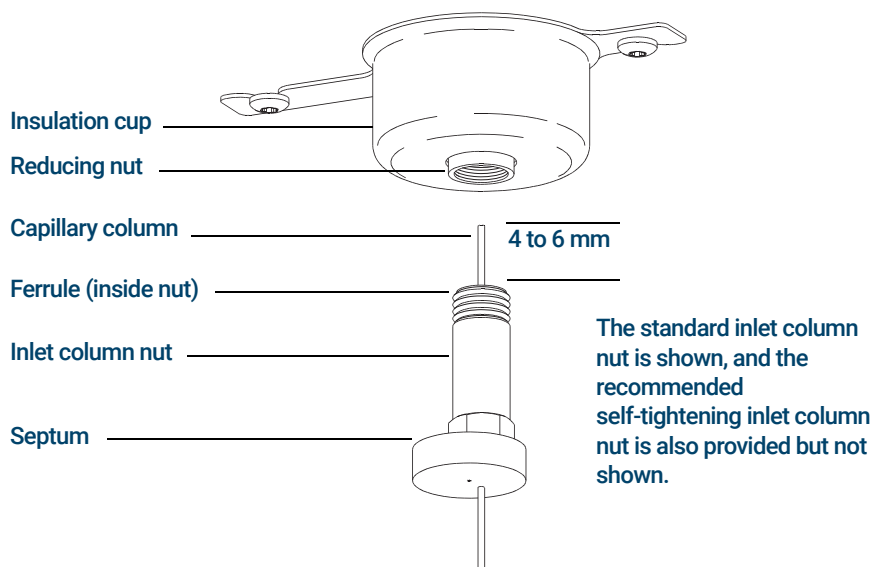

Figure 3. Installing a capillary column for a split/splitless inlet
- 7 Position the septum under the column nut so that the column extends 4 to 6 mm past the end of the ferrule. (See **Figure 3**, "Installing a capillary column for a split/splitless inlet," on page 28.)